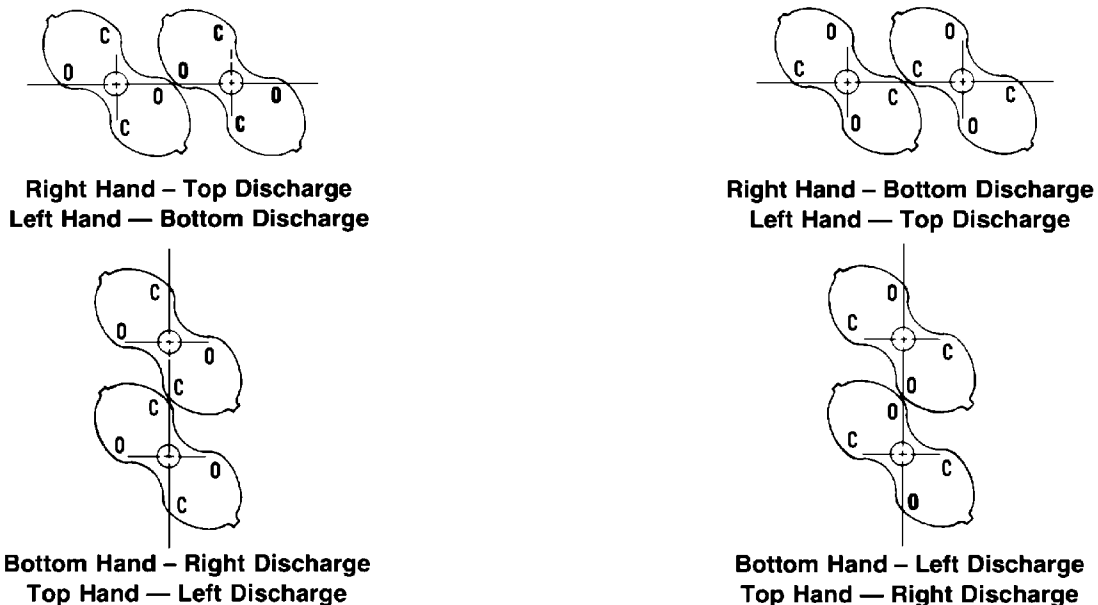

FIGURE 12 - IMPELLER LOBE CLEARANCES
**Determining Proper Impeller Clearances** (FIGURE 12) - The clearances between impellers are measured at points 0-0 and c-c when the impellers are in the positions shown. Note that the impellers are shown viewed from the drive end of the blower; always face the drive shaft end when determining clearance. Select the illustration from the sketches which is applicable to your unit.